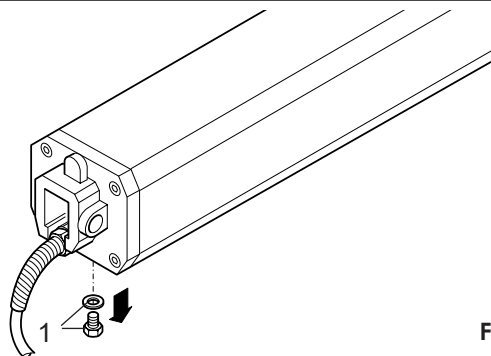

Fig. 11
Re-attach the operator to the mounting brackets. Once the operator is mounted and level, remove the vent screw from the bottom of the valve body (Fig. 11 ref (1)). Use a 3mm hex wrench.